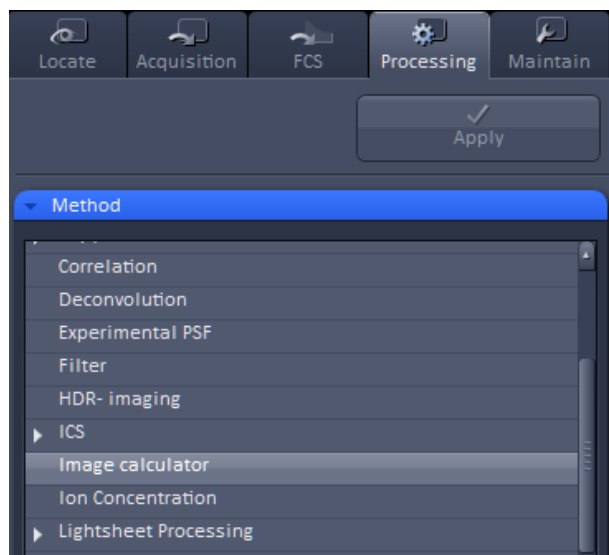

Fig. 261 Processing – Image Calculator
- Click on the triangle buttons to show or hide the **Method Parameters** and **Preview** panels (Fig. 261) for the function.